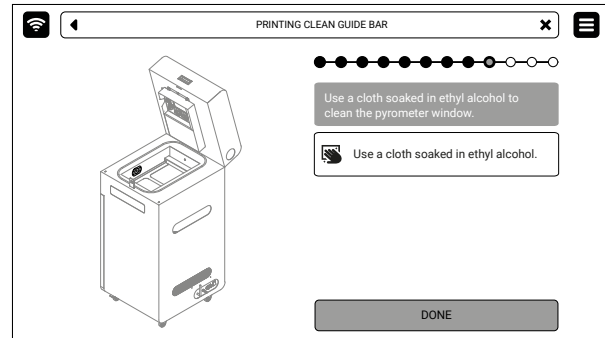

Fig. 6.11 Wipe the pyrometer window.
- Wipe the pyrometer window again with a dry cotton cloth, in order to remove any alcohol residue. Press **DONE** (fig. 6.11)